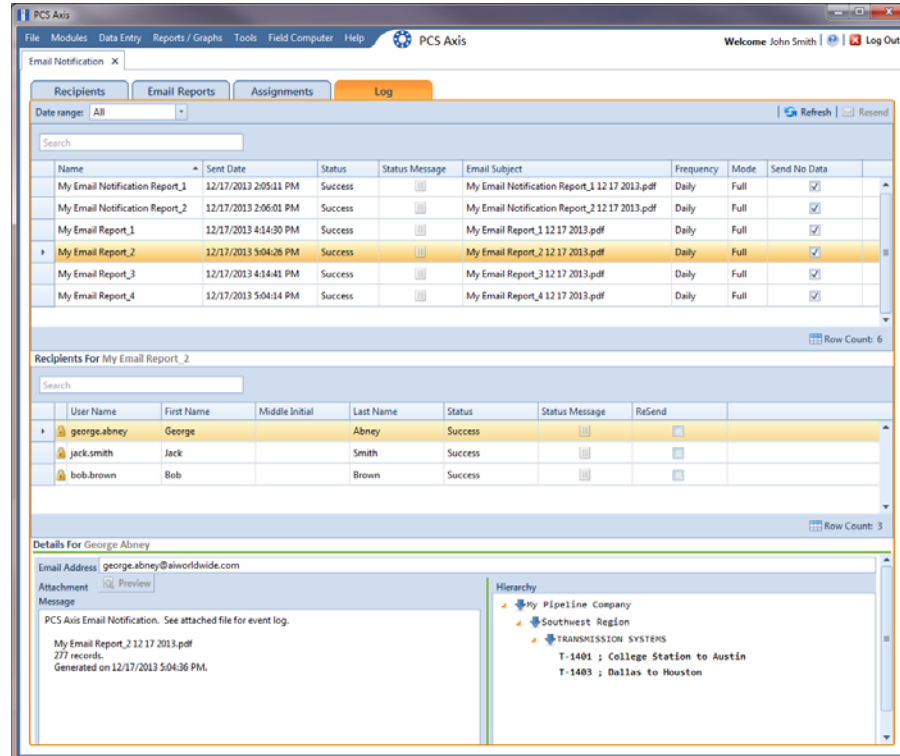

Figure 12-14. Email Notification Log
If your computer is installed with Adobe® Reader, you can also view a copy of a report sent to an email recipient by clicking the *Preview* button in the *Details For* group box (Figure 12-14). Clicking *ReSend* for a selected email recipient in the *Recipients For* group box allows PCS Axis to re-send reports assigned to the user.
- 2 Click  **Log** to open the *Email Notification* log (Figure 12-14, page 545).
- 2 Click **Log** to open the *Email Notification* log (Figure 12-14, page 545).